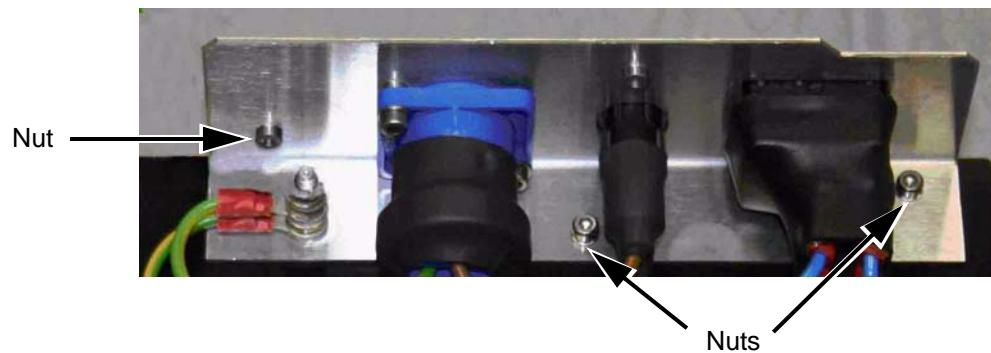

Figure 5-7:Main Switch Assembly Plate Screws Removal
- 6 Remove and retain the three screws that secure the Mains Switch Assembly plate to the base of the power supply (Figure 5-7).